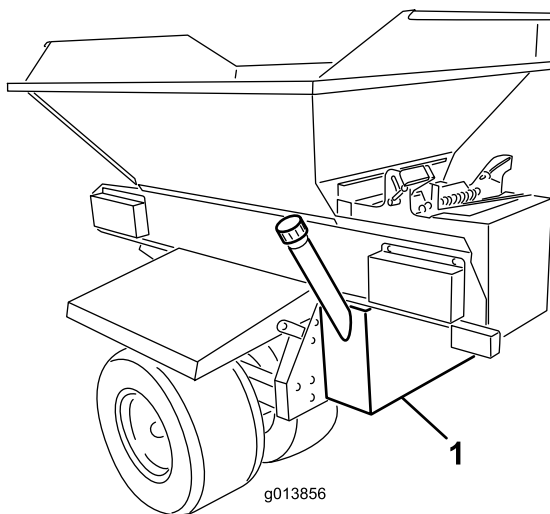

Figure 1
4. Support the hydraulic tank from underneath and position the tank against the ProPass chassis rear wall. The tank should be centered evenly from left to right and should be positioned vertically (Figure 1).